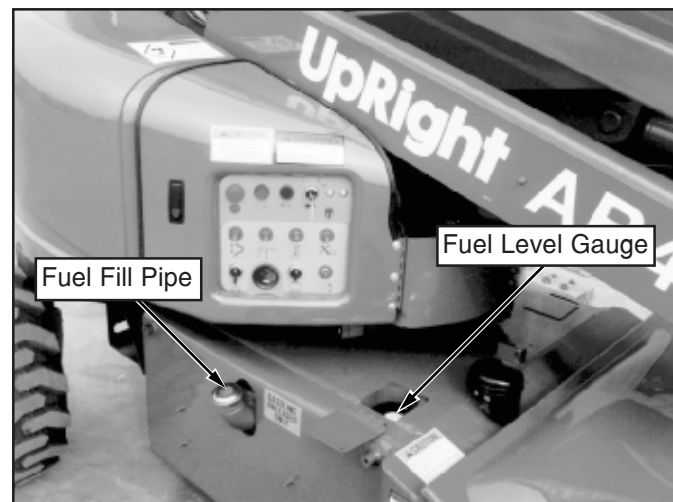

Figure 7: Fuel Fill Pipe and Level Gauge
1. Open fill pipe cap located on chassis left side (see figure 7).
3. Check fuel level by lifting flap located on top of chassis left side (see figure 7). Fuel tank full capacity is 25 US gallons.
3. Lift flap located on top of chassis right side (see figure 7).